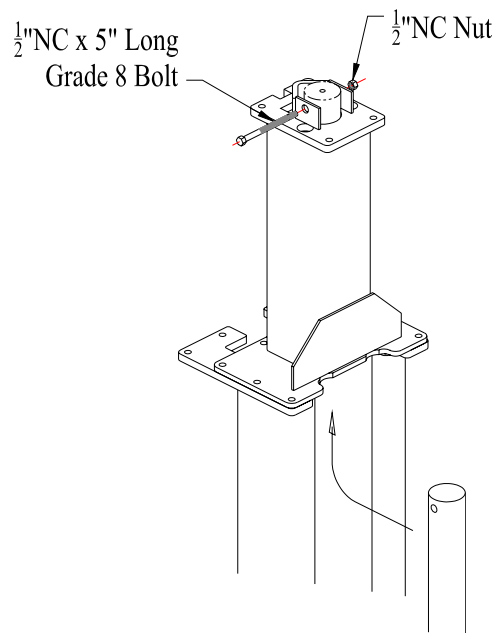

Figure 6
- J. Install the cylinders in the legs by attaching them to the Uprights with the 3/4" x 5" Grade 8 bolts and nuts, figure 6. The cylinder ports should be positioned pointing towards the center of the lift.